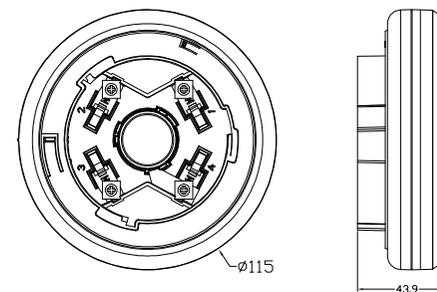

Fig.1
10. Dimension: φ115mm×H44mm (with bracket), See Fig.1